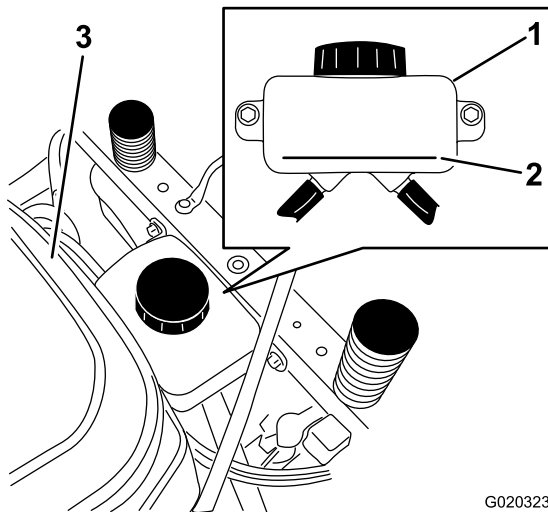
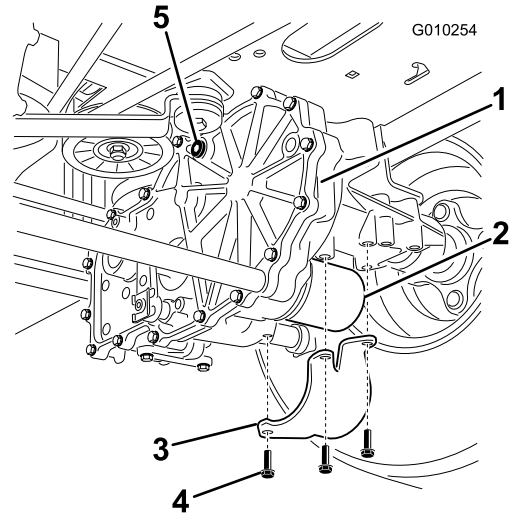

Figure 49
Figure 50
3. Locate the filter and guards on each transaxle drive system (Figure 50).
4. Remove three screws securing the filter guard and remove the guard (Figure 50).
A. Ensure that the vent plugs and reservoir cap are removed before adding the oil (Figure 49 and Figure 50).
B. Slowly pour the specified oil through expansion reservoir until oil comes out of **one** of the vent plug holes and stop filling (Figure 50).
C. Install that vent plug (Figure 50).
D. Add oil through the expansion reservoir until oil comes out of the remaining vent plug hole on the second transmission and stop filling (Figure 50).
E. Install that vent plug (Figure 50).
7. Add oil through the expansion reservoir until it reaches the Full Cold line on the expansion reservoir and install the cap for the reservoir (Figure 49).
6. Stop the engine and check the oil level in the expansion reservoir. Add the specified oil as until it reaches the FULL COLD line on the expansion reservoir (Figure 49).
8. Check the oil level in the expansion reservoir one last time. Add the specified oil as until it reaches the FULL COLD line on the expansion reservoir if necessary (Figure 49).